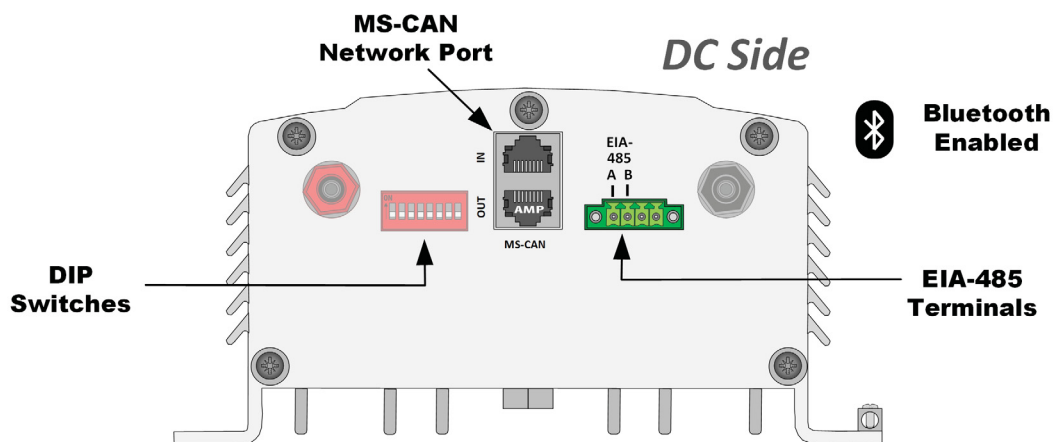

Figure 29: Communication Port Locations (150 W & 300 W Models)
- Figure 29 shows the location of the communication ports for the 150 W and 300 W models.
Figure 29 shows the location of the communication ports for the 150 W and 300 W models.